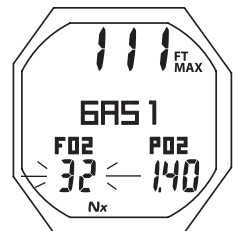

Fig. 38 - SET GAS 1 PO2 ALARM
- S (< 2 sec) - save the FO2 setting and flash the PO2 digits (Fig. 38, page 20), or revert to SURF MAIN if Air.
- S (< 2 sec) - to save the FO2 setting and flash the PO2 digits (Fig. 38, page 20), or revert to SURF MAIN if Air.